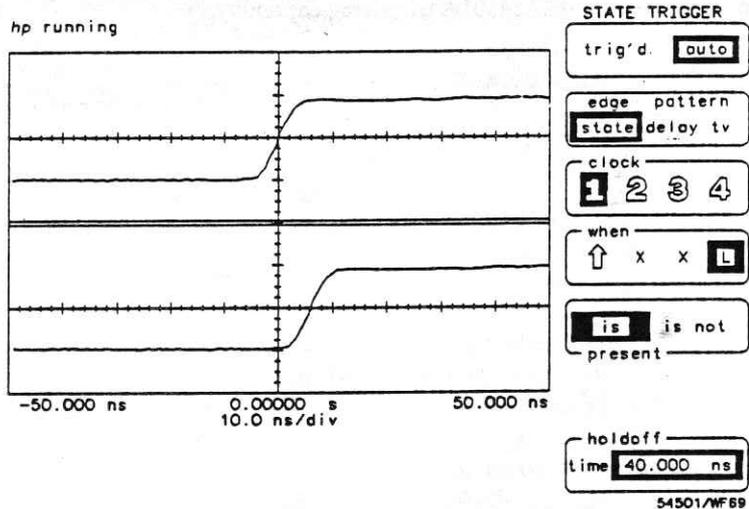

Figure 6-11. Channel 1 Clock XXL State
- - Press the when key until is present is selected (see Figure 6-11).